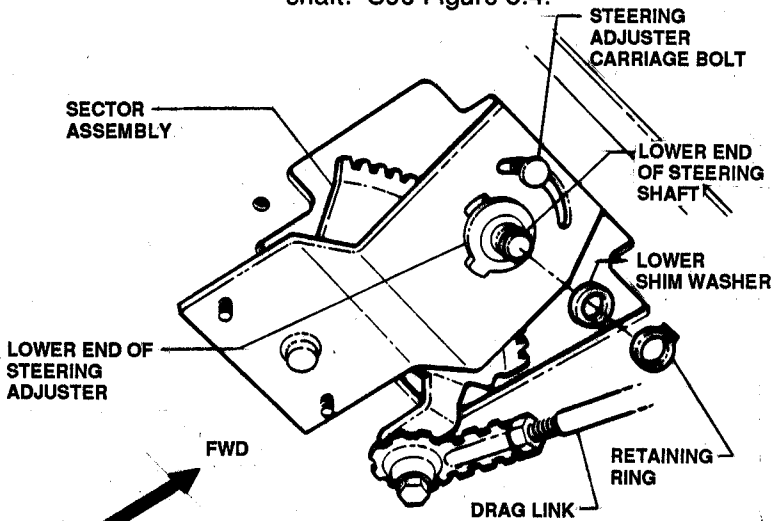

FIGURE 5.4
- (1) Remove mower deck and place tractor on a work platform high enough to allow access to work underneath.
- (2) Remove retaining ring and lower shim washer from end of steering shaft. See Figure 5.4.